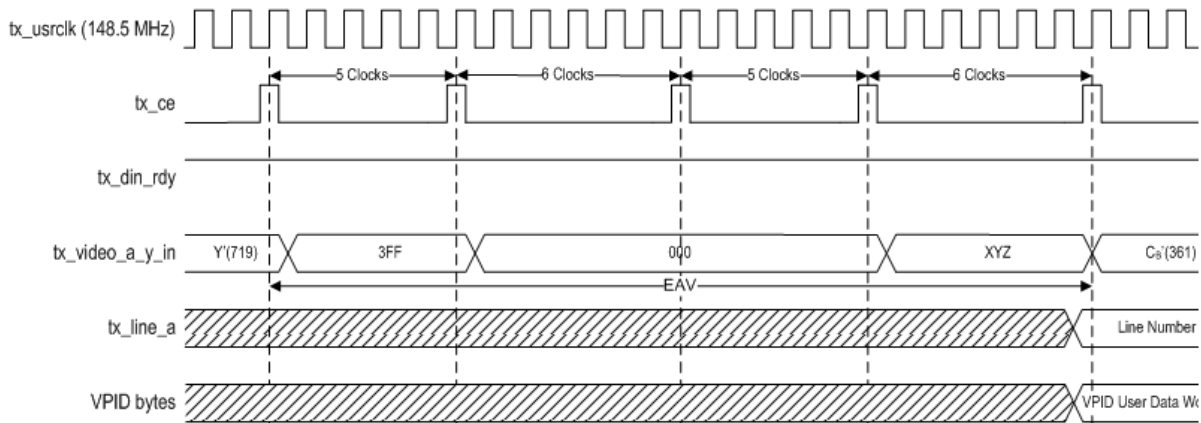

Figure 3-7: SD-SDI TX Timing
When operating in SD-SDI mode with a transceiver in a Xilinx device, the `tx_usrclk` has a frequency of 148.5 MHz because the transceiver runs at 11 times the 270 Mb/s SD-SDI bit rate. The interleaved Y/C data stream is connected to the `tx_video_a_y_in` port of the SMPTE SD/HD/3G-SDI core. The `tx_ce` clock enable input of SMPTE SD/HD/3G-SDI core must be asserted at a 27 MHz rate, as shown in Figure 3-7. This means that `tx_ce` must be asserted with a 5/6/5/6 clock cycle cadence. Any other cadence of the `tx_ce` signal causes the SD-SDI bit replication logic to underflow or overflow. The `tx_din_rdy` port must always be held High in SD-SDI mode.
1. All inputs except `tx_ce` have an entire sample time in which to become stable. Data is only sampled on the inputs on the rising edge of `tx_usrclk` when `tx_ce` is High. The sample time is the time between rising edges of `tx_usrclk` when `tx_ce` is High. As shown in Figure 3-7, the `tx_ce` signal must always have a 5/6/5/6 clock cycle cadence. Any other cadence underflows or overflows the SDI bit replication logic. Although Figure 3-7 shows that the first word of the EAV is a 5-clock cycle sample, there is no such relationship required. The first word of the EAV could instead be a 6-clock cycle sample.